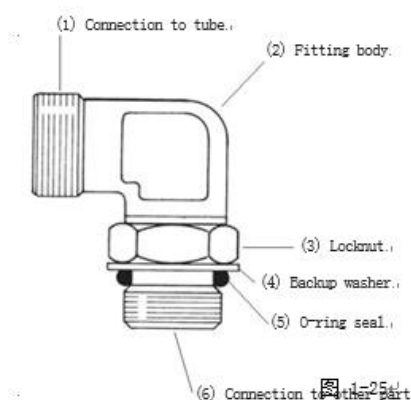

Figure 1-25
1. Place the lock nut (3), support washer (4) and O-ring seal (5) as far away from the fitting body (2) as possible.
2. Tie the joints to the part it is using until the support washer (4) just touches the surface of the part.
3. Place the joint assembly in the correct position, and turn the joint body (2) outward to 359 °(counter-clockwise).
4. Tighten the locking nut (3) to the torque as shown in the correct diagram for the used fitting.
5. If the end shape of the fitting body is the same as shown in figure 1-25 (elbow or straight), please place the sleeve over the tube before connecting the tube to the end.